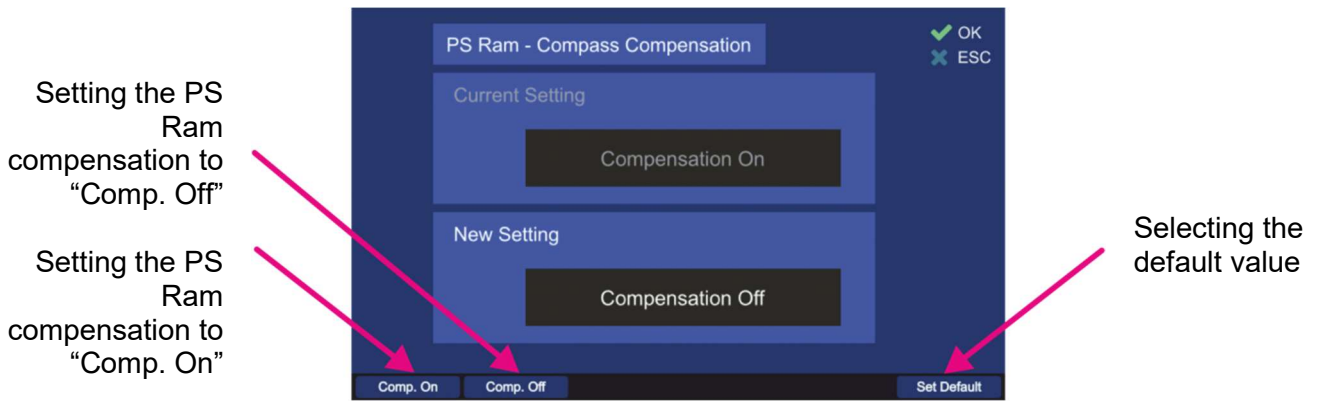

Figure 130. PS Ram compensation dialog
- Choose the new setting using one of the hotkeys (s. Figure 130), which will then appear in the “New Setting” field.